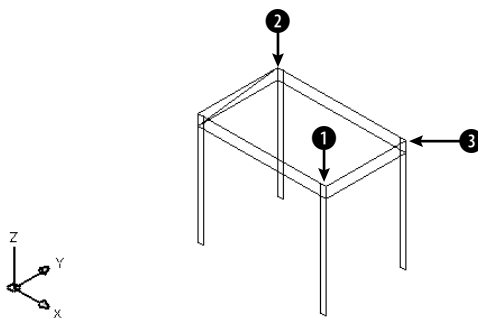

Figure 21-9: The piano bench after being shrunk with the STRETCH command.
3. Choose Stretch from the Modify toolbar. Use a crossing window to select the right side of the bench. Eight objects should be selected. End object selection. At the Specify base point or [Displacement] <Displacement>: prompt, use the Endpoint object snap to pick ① in Figure 21-9. At the Specify second point of displacement: prompt, type `-15,0 ↵`. (If you're not using Dynamic Input, type `@-15,0`.)
Specify first point: Choose ② in Figure 21-9.